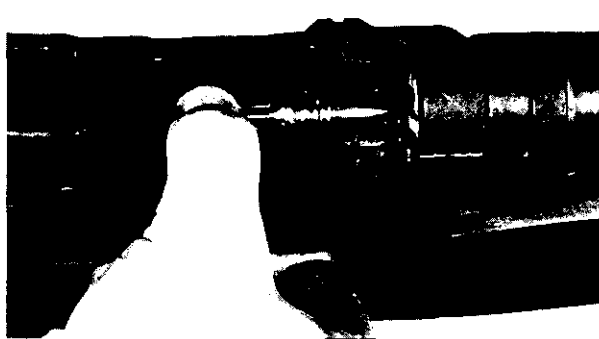

Figure 27. Loading the magazine with a single round (magazine in rifle).
a. To load a single round into an empty magazine in the weapon, lock the bolt to the rear and engage the safety. Place a round on top of the magazine follower and press down on the round and fully seat it in the magazine (fig. 27).